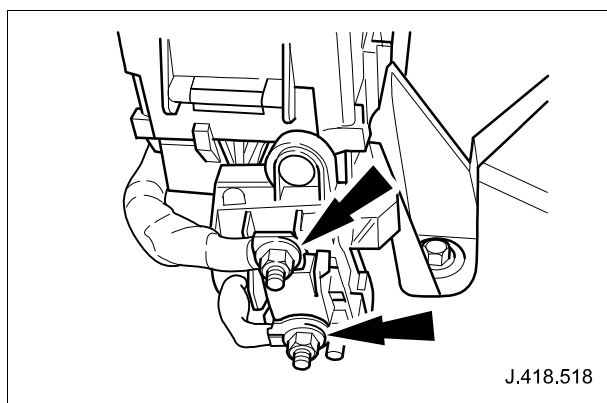

Fig. 4
- 2.2 Check mega fuse, as shown in Fig. 4.